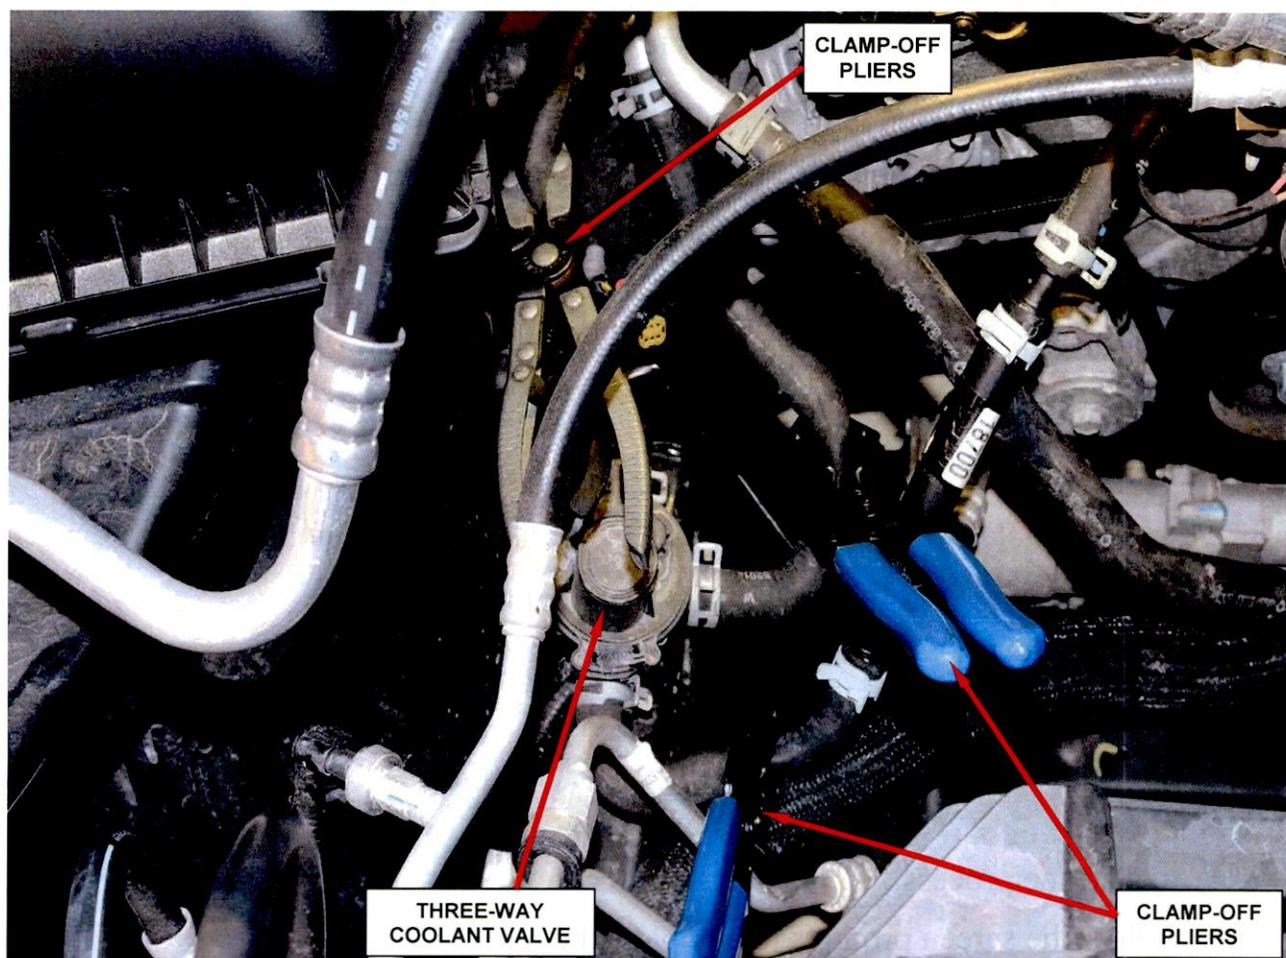

Figure 3 – Clamp-Off the Three Coolant Hoses at the Three-Way Valve
4. Using hose clamp-off pliers, clamp-off the three coolant hoses going to the three-way coolant valve (Figure 3).